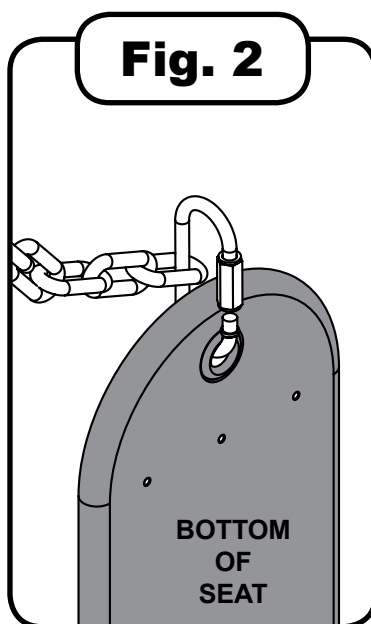

Fig. 2
2. Insert the Quick Link through the Swing Seat Grommet as shown in (Fig. 2).